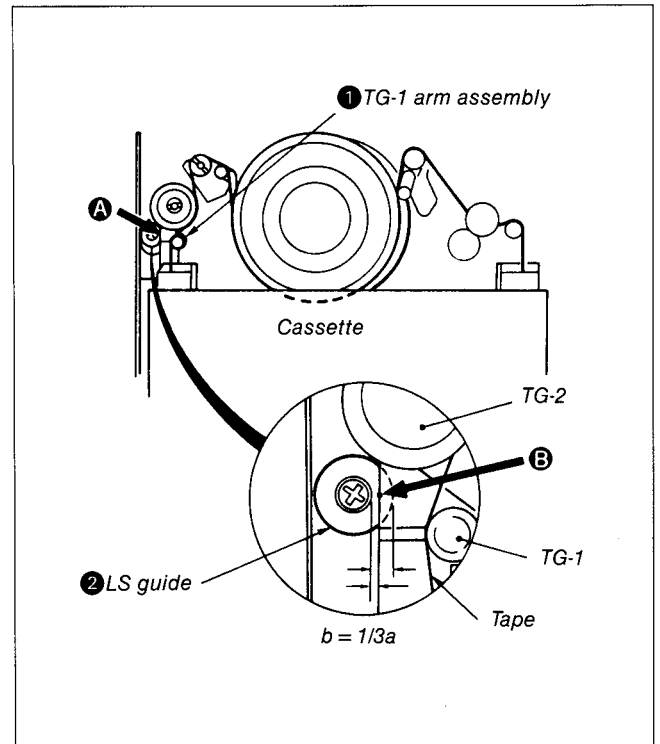

Fig. 8-42.
2) In tape running state, confirm whether the arrow marked **A** point is positioned at the point (arrow mark **B**) 1/3 within the thickness of LS guide **2** or not. (See Fig. 8-42)